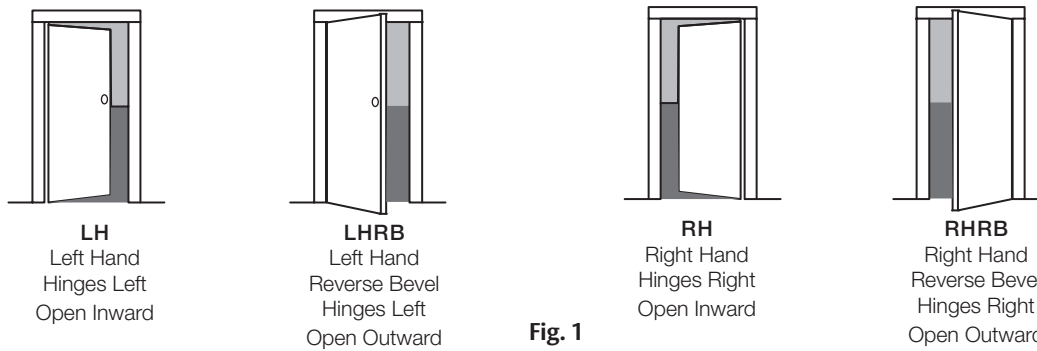

Fig. 1
- a. Verify hand and bevel of door. (Figure 1)